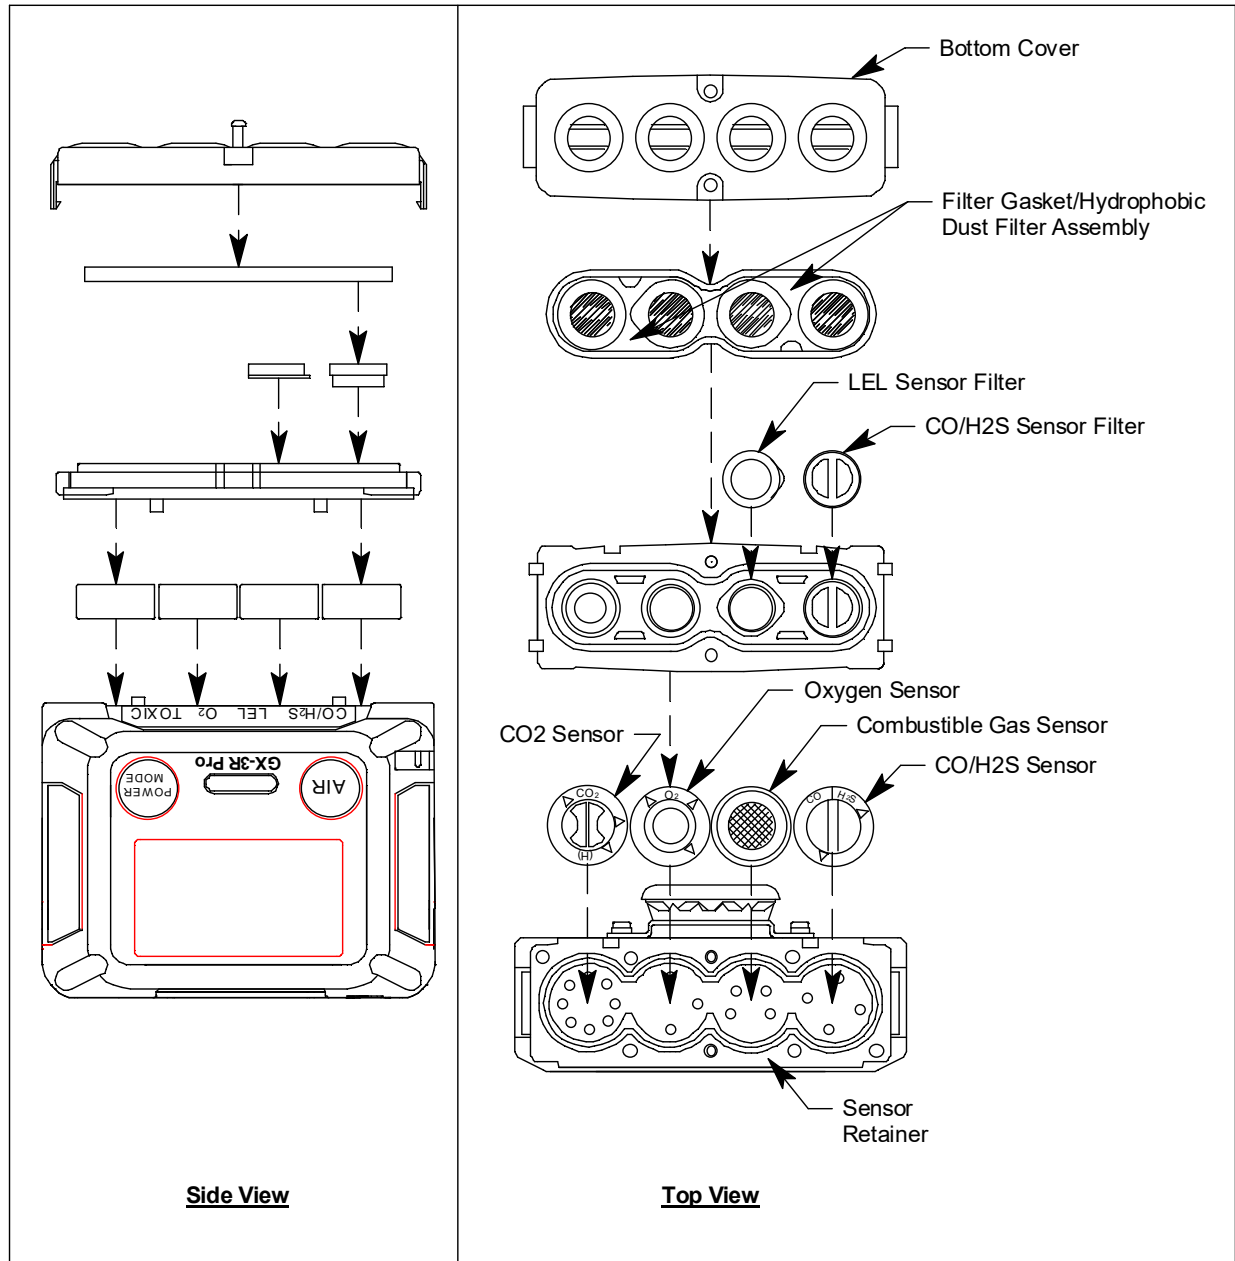

Figure 1: Installing the Sensor and Filter
6. Locate the left most socket for the CO₂ sensor as shown in Figure 1. Remove the dummy plug that is currently installed in this slot.